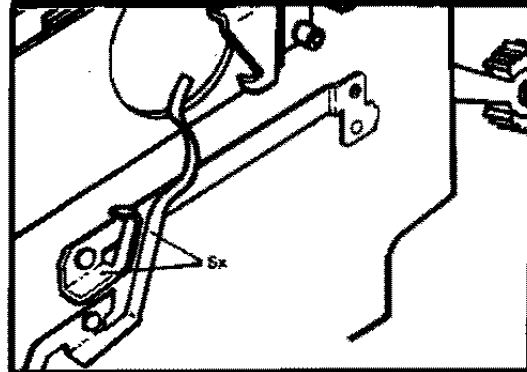

FIG. 3-9 CHECKING THE FLASH SWITCH
- e. Check the flash switch (Figure 3-9). (In some shutters, the contacts of the Ss switch will be welded together.) With the
- a. Check the flash switch. Refer to Figure 3-9 and check that the Ss contact is welded together (early shutters). Check that the Sx contact is open when the shutter is cocked and closed when the shutter is tripped.